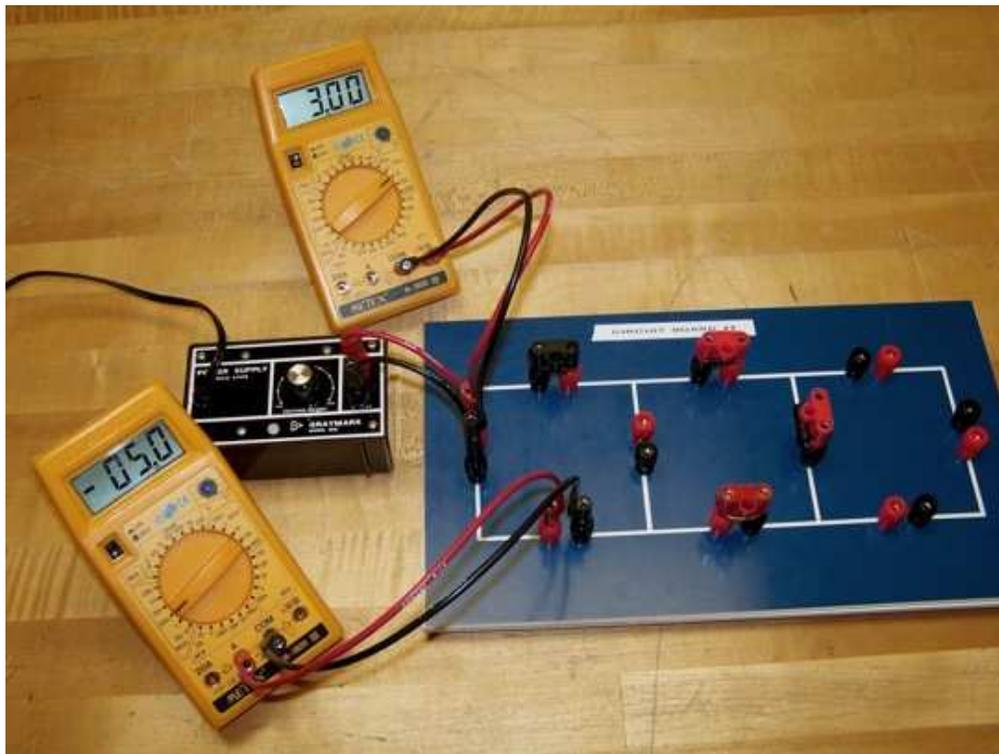
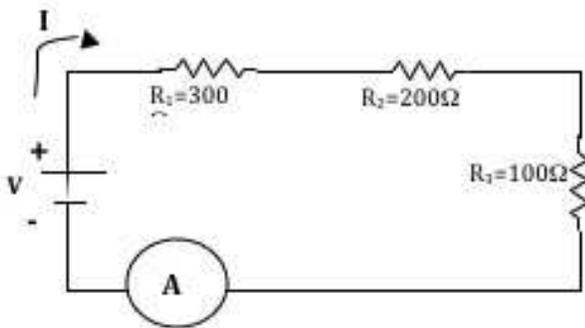

Figure 16.1: Series Circuit
Figure 16.4: Series Circuit Schematic
The first type of circuit you will construct is a **series circuit** (Fig. 16.1 and Fig. 16.4). In a series circuit, the resistors are connected end-to-end such that the current is the same through each resistor: *The current has only one path available.* The voltage drop across each resistor depends on the resistor value.
1. Measure R_i , then construct a series circuit (Fig. 16.4) with 100- Ω , 200- Ω , and 300- Ω resistors and ammeter (200 mA DCA); do not connect the power supply yet.